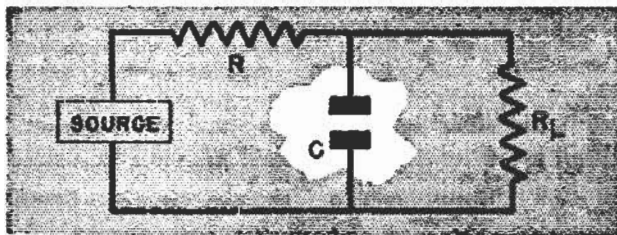

FIG. 35. Another important condenser circuit. Here, the condenser acts with resistor R to keep the higher frequencies from affecting the load R_L .
want low-frequency a.c. and no high frequencies. We can add a condenser in parallel with the load, as in Fig. 35, and will again have a frequency-separating circuit—one of the most useful in radio.
Notice—this action is exactly opposite to that of the circuit in Fig. 32. The circuit in Fig. 32 permitted only higher frequencies to pass, while that in Fig. 35 permits only lower frequencies to pass. Hence, Fig. 35 is acting much like the coil circuit of Fig. 31.
► Notice how the parts *work together* to give the desired actions. Without the series R in Fig. 35, an entirely different action would occur. The condenser would then act just as it does alone and would serve only as an *additional load* on the source. It would
By-pass Action. The condenser connection shown in Fig. 35 is very frequently called a "by-pass" because it "by-passes" high-frequency currents so they do not flow through the resistor R_L . This action is also called "filtering," because the effect is one of "filtering out" certain frequencies. Which name we use depends upon the exact action required in the circuit, as you will learn later. Usually, the term "by-passing" is used whenever we want to provide an easy path for a.c. and at the same time keep this a.c. out of another circuit.